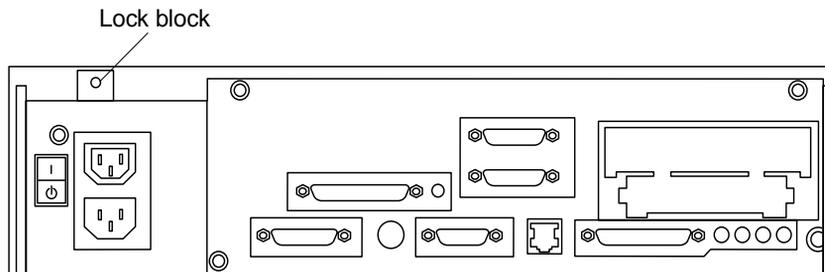

FIGURE 7-1 Location of Lock Block
- 2. Use a No. 1 Phillips screwdriver to remove the lock block (FIGURE 7-1).**
4. Use a No. 1 Phillips screwdriver to replace the lock block (FIGURE 7-1).